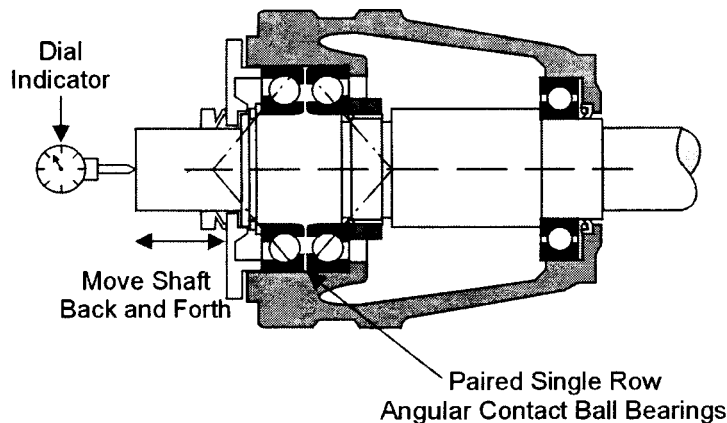

Figure 44 - Checking the clearance on a pair of single row angular contact ball bearings. (Courtesy SKF Canada Limited)
- A final check on the residual clearance can be made by an axial check as shown in Figure 44